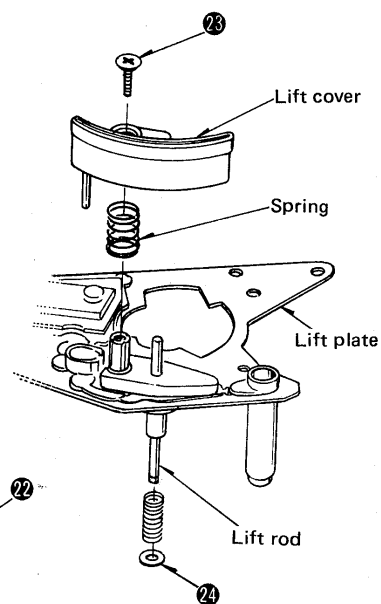

Fig. 11
3. Remove the setscrew [Fig. 11: 23] of the arm lift cover.
4. Remove the washer [Fig. 11: 24] from the arm lift rod.